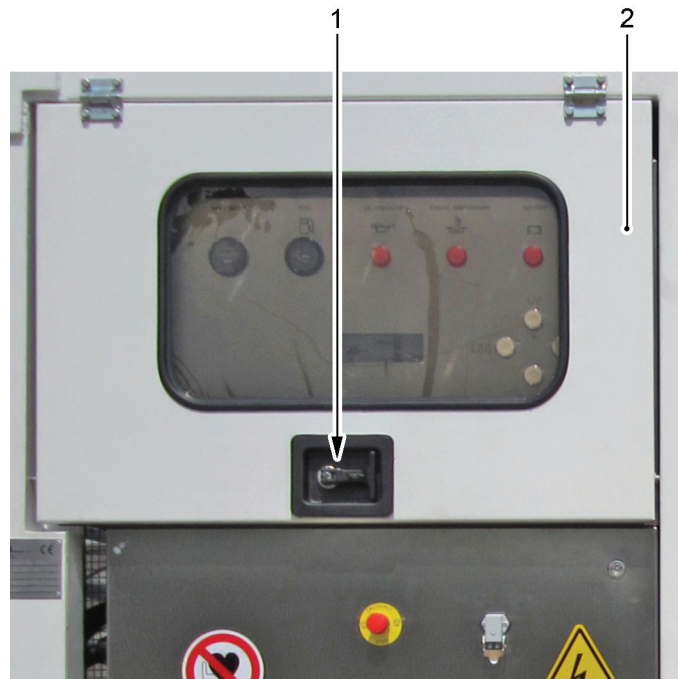

Figure 7.4 - Clean the commands and controls situated on the command and control panel
- by acting on the relevant handle (see Figure 7.4/1), after having removed the locking padlock (if present), open the transparent hatch (2), for protecting the command and control panel;
- close the transparent hatch (2) by acting of the handle (1), and lock it by means of the locking padlock (if present).